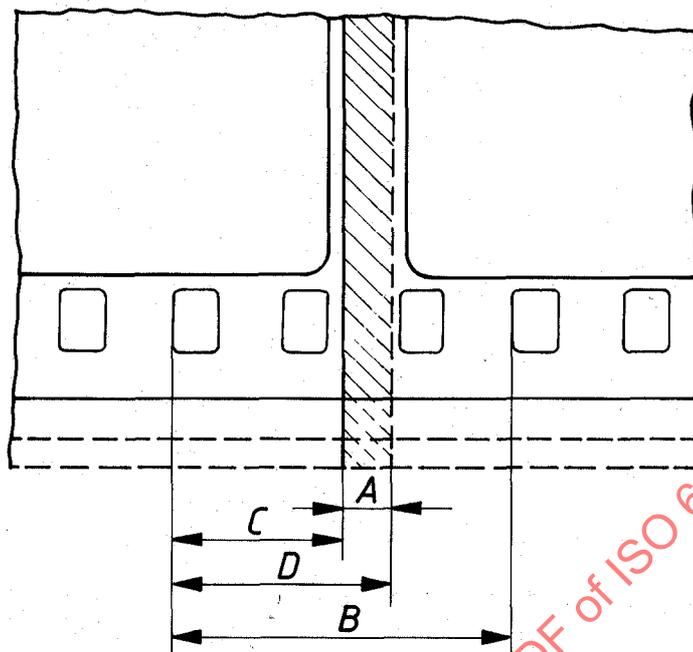

Figure 3 — Splices on 70 mm, 65 mm and 35 mm films
2.4 The dimensions for 70 mm, 65 mm and 35 mm motion-picture films shall be as shown in figures 3, 4 and 5 and as given in tables 2, 3, 4 and 5.